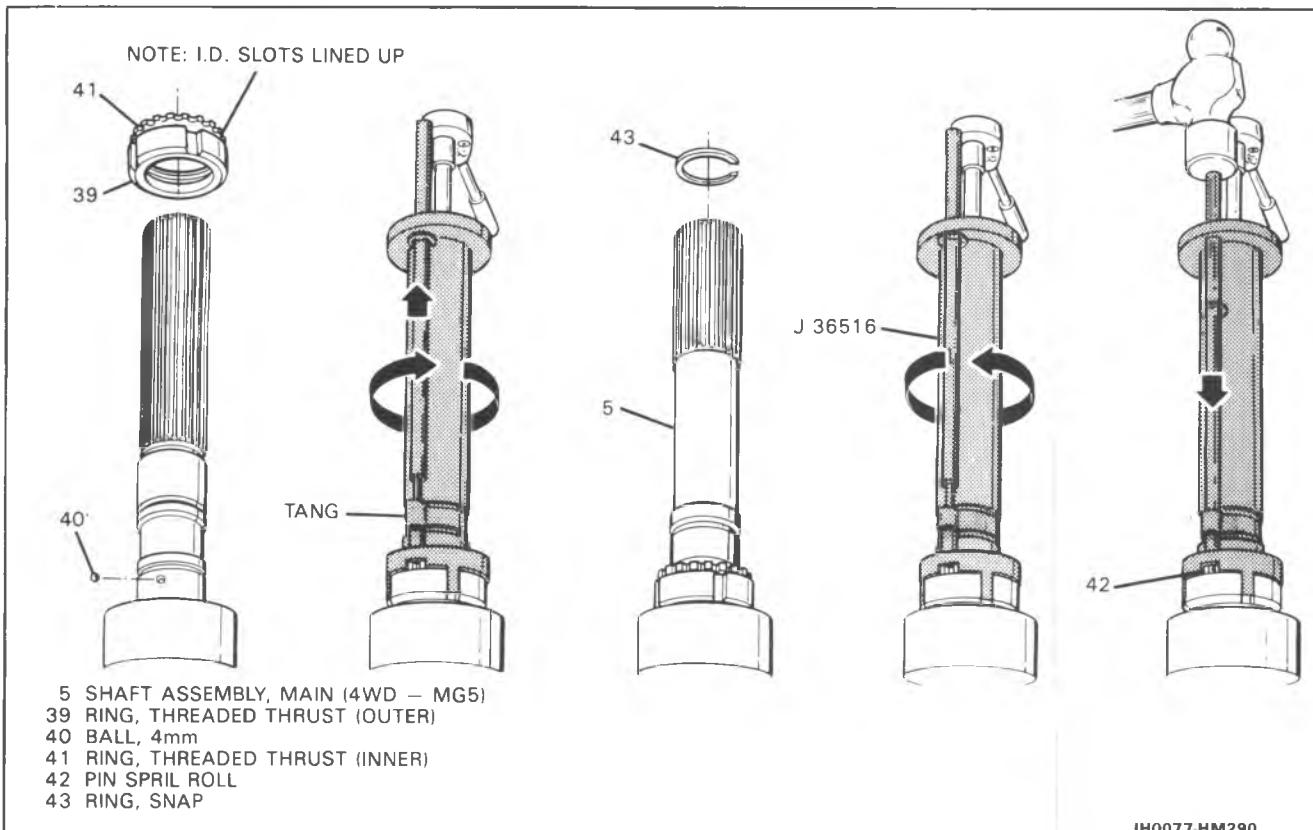

Figure 88 4WD Threaded Thrust Rings Install
2. Rear housing assembly (301).
- Bring housing straight down. If resistance is felt at about 1/4 inch then the rollers (35) or (203) are cocked. Repeat above procedures to install. DO NOT FORCE HOUSING DOWN.
3. Ball bearing (outer) race (38).
4. Ball (4mm) (40) (Figure 88).
5. Threaded thrust (inner) ring (41) and threaded thrust (outer) ring (39).
- MAKE SURE THE OLD SPIRAL ROLL PIN (42) IS REMOVED FROM THREADED THRUST RING (OUTER) (39).
- Screw the rings together completely, then back the rings off till BOTH ID SLOTS FOR THE BALL (40) LINE UP.